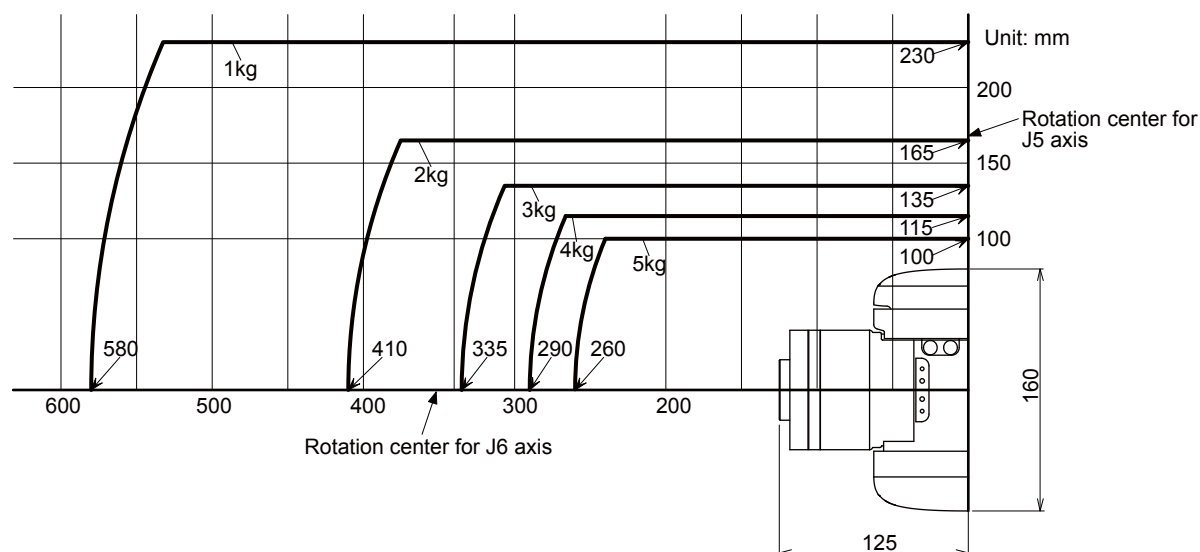

Fig.2-1: Positions of the centers of gravity for loads with relatively small volume
- (2) Fig. 2-1 shows the distribution dimensions for the positions of the centers of gravity for loads with relatively small volume. Refer to the figure for designing tooling.
- (3) Even if the load is force, not the mass, design the tooling so that moment does not exceed the allowable moment. Refer to Page 12, "2.1 Standard specifications" for details of allowable moment value.